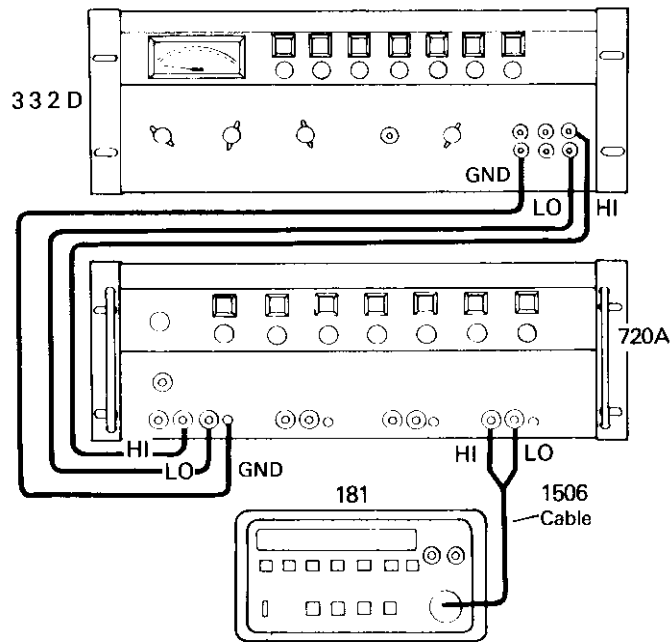

FIGURE 5-6. DC Calibrator, Kelvin-Varley Divider and 181
- B. Connect the DC calibrator, Kelvin-Varley Voltage divider and 181 as shown in Figure 5-6.